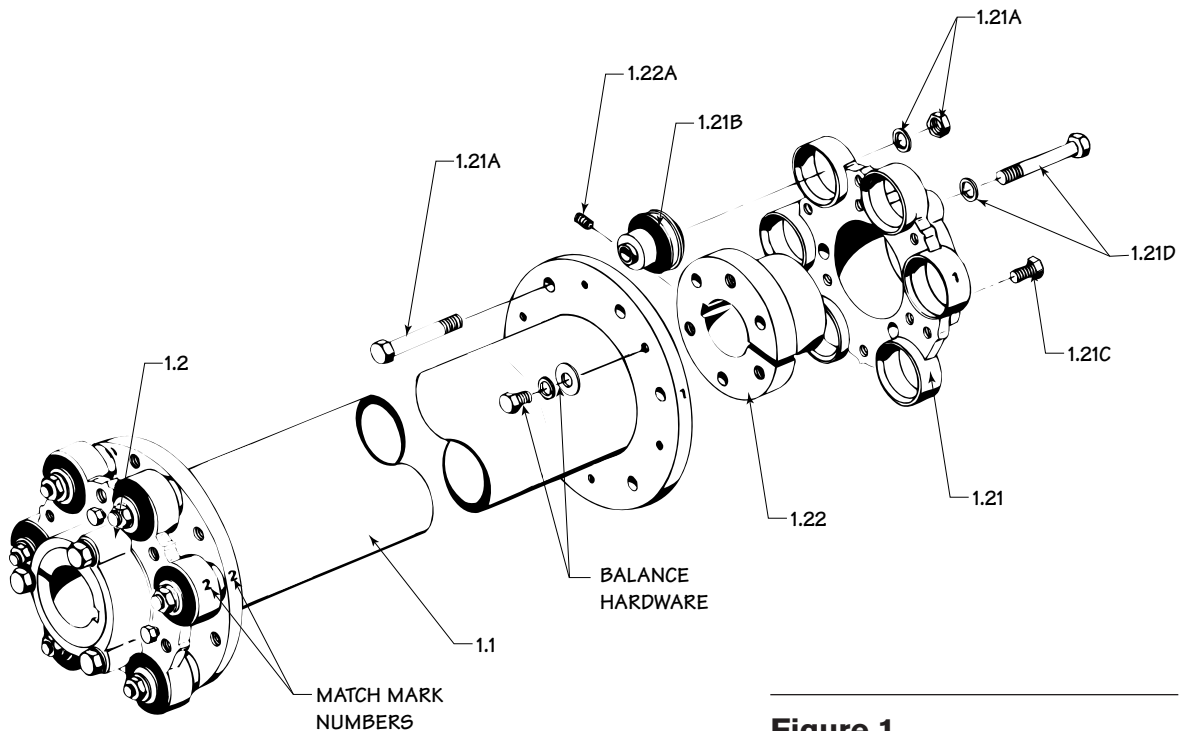

Figure 1
Marley 301 and 400 series driveshafts consist of a tube assembly with motor and Geareducer® couplings. Driveshafts are dynamically balanced. Tube and yoke flanges are match-marked as balanced. See Figure 1. Do not change position or relation of match-marked components during installation. When couplings, yokes, or tube assemblies are replaced, the driveshaft may need to be rebalanced. See page 8.
- Install the six machine bolts through the flange of the tube assembly into the Geareducer yoke as shown in Figure 1. Make sure flex bushings are properly seated in the tube assembly flange. Progressively tighten all six bolts to 50 ft·lbf (68 N·m) torque.